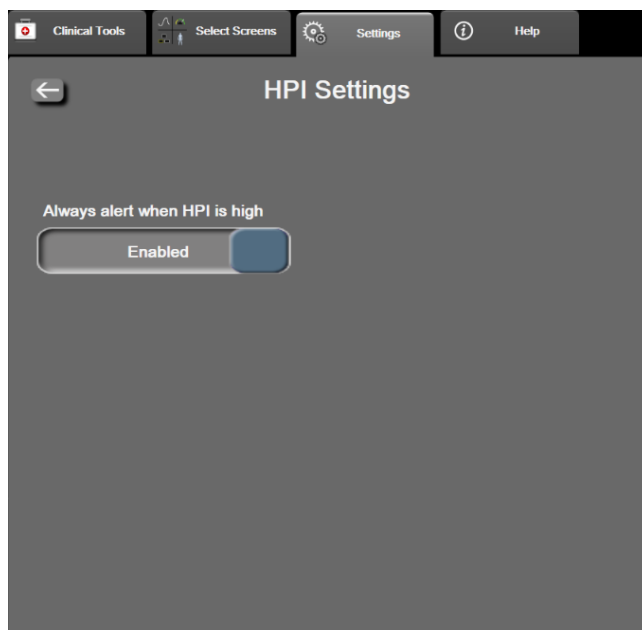

Figure 14-4: Parameter settings - Hypotension Prediction Index
5. Touch the **Always alert when HPI is high** toggle button to switch to **Disabled**. See Figure 14-4 on page 241.